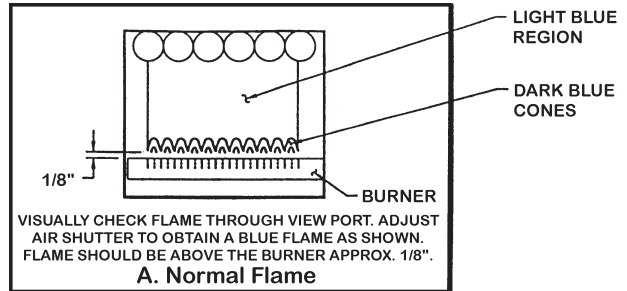

FIGURE 7. BURNER FLAME CHARACTERISTICS
- Cause no excessive lifting of flame from burner ports; see Figure 7.